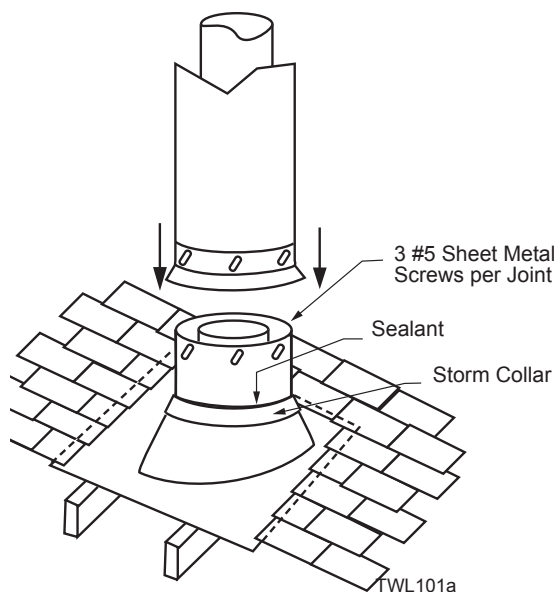

**Figure 21 -
8. Install appropriate pipe sections until the venting is above the flashing. *Figure 21*
10. Add additional vent lengths for proper height. *Figure 21*